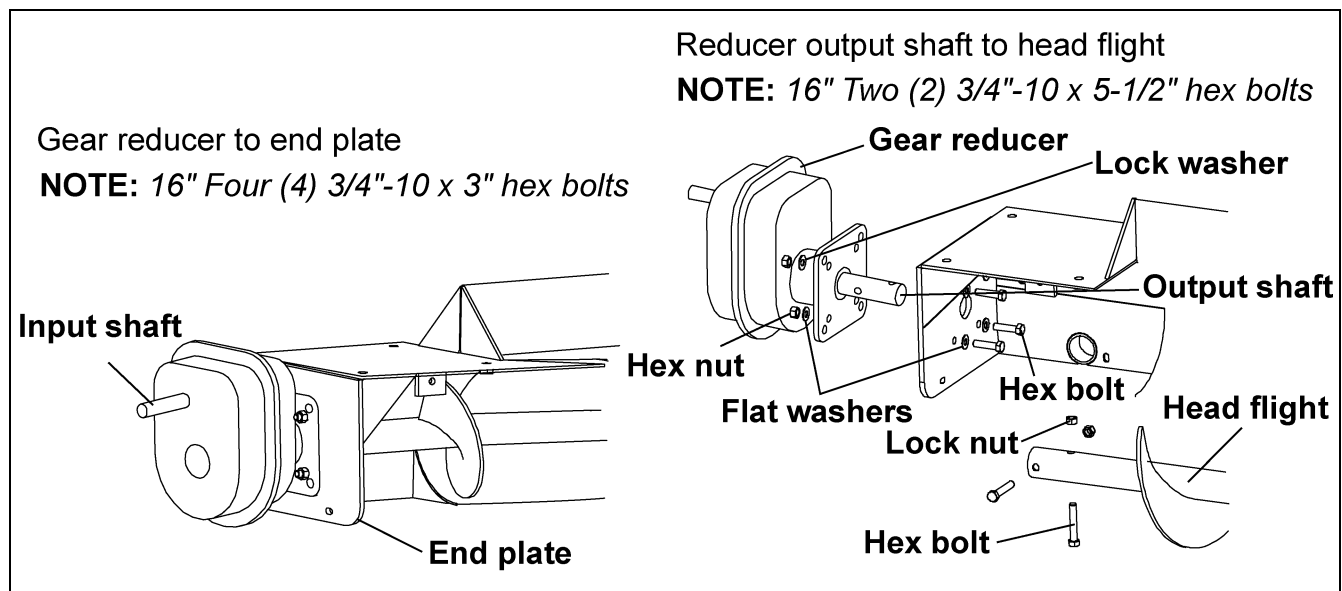

Figure 5H
- A. Slide the output shaft of the reducer through the end plate of the head section and into the end of the head flight. Secure the reducer output shaft to the head flight with hex bolts and lock nuts. (See Figure 5H on Page 28.)
- B. Bolt the reducer to the end plate of the head section using hex bolts, flat washers and lock washers, supplied with the reducer. (See Figure 5H on Page 28.)